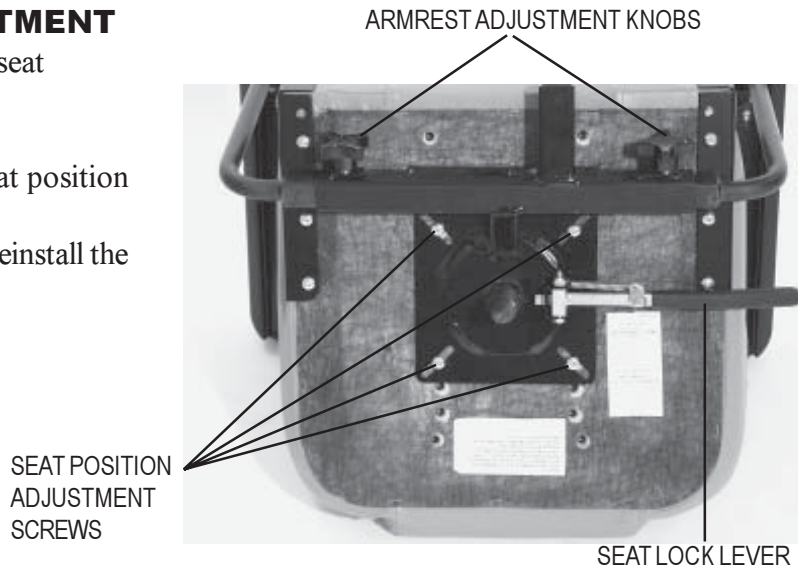

FIGURE 13. SEAT ADJUSTMENTS
1. Loosen the armrest adjustment knobs at the back of the seat frame. See figure 13.
2. Use a 7/16-in. wrench to remove the seat position adjustment screws. See figure 13.